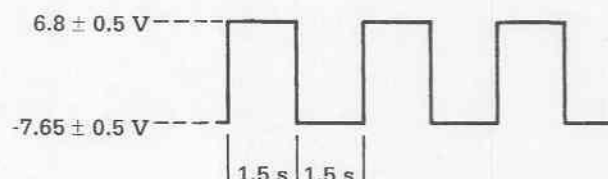

Figure 7-4
2. Connect an oscilloscope to TP-17 and set it for 5 V/division vertical scale and 0.5 s/division horizontal scale. Adjust potentiometer RO until the displayed waveform has a 50% duty cycle. The waveform should look like Figure 7-4.